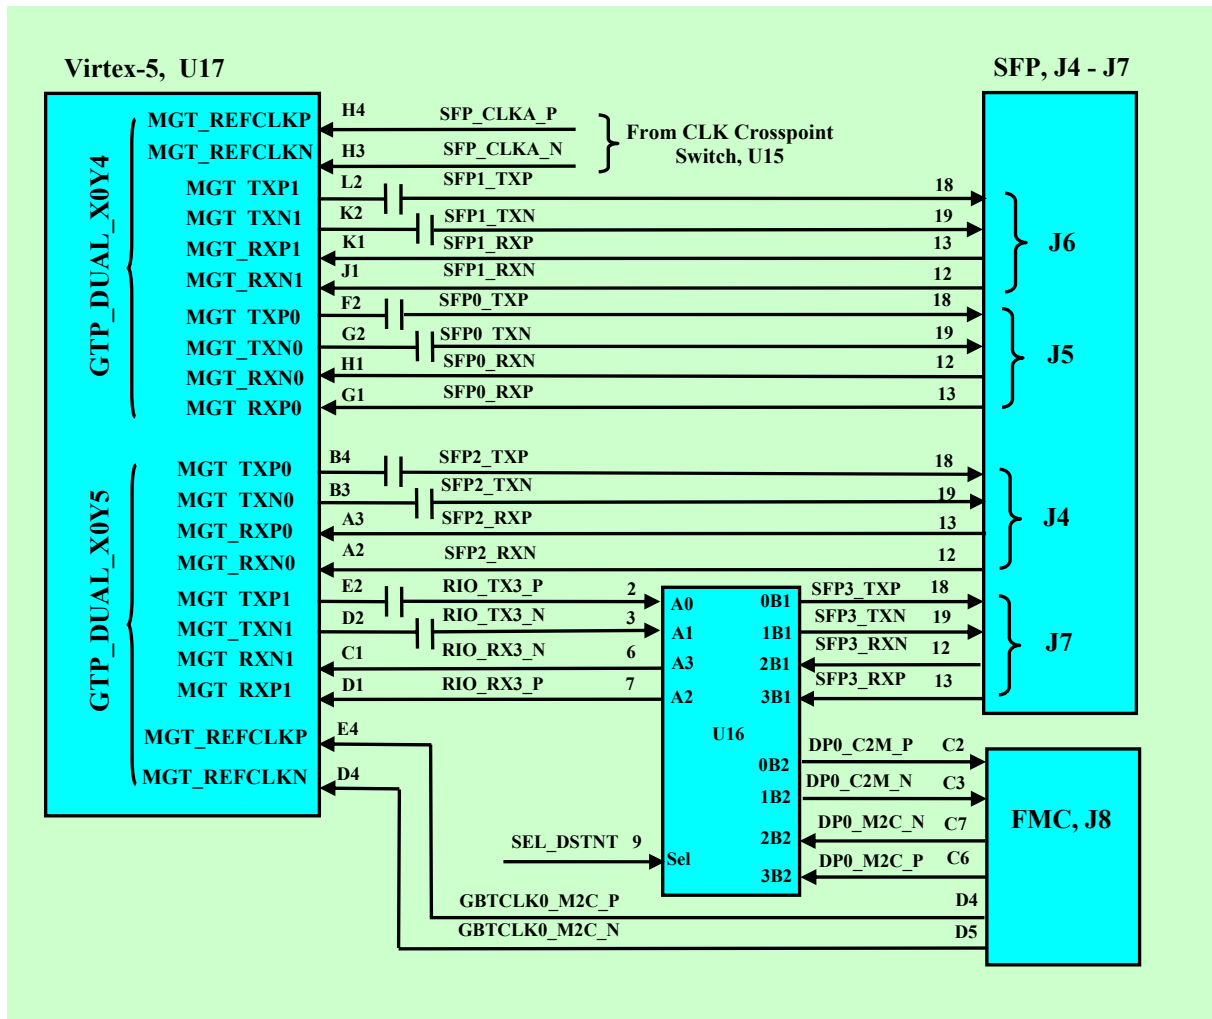

Figure 11 SFP&FMC High Speed Interfaces
The DAMC2-00 board has four sockets (J4 - J7) for installation of compact hot-pluggable SFP transceiver. The Small Form-factor Pluggable (SFP) transceiver can support interfaces with data rate up to 4.25 Gbit/s. The SFP transceivers can be used for SONET, Gigabit Ethernet, Fibre Channel and other communication standards. The DAMC2-00 board provide up to four High Speed optical interfaces. Three GTP transceivers of Virtex-5 are connected to the SFP sockets directly and one of GTP is connected to SFP socket through PCI Express switch – TS2PCIE412, U16. The TS2PCIE412 is a 4-channel PCIe 2:1 multiplexer/demultiplexer switch that can be used to route one PCIe data lane between two possible destinations or two PCIe data lanes to one destination. Each channel consists of differential pairs of receive (RX) and transmit (TX) signals and operates at a signal-processing bandwidth speed, which supports the PCIe standard of 2.5 Gbps. One of destination for this switch is SFP socket, J7 and second one FMC connector, J8. SFP interface is shown on Figure 11.